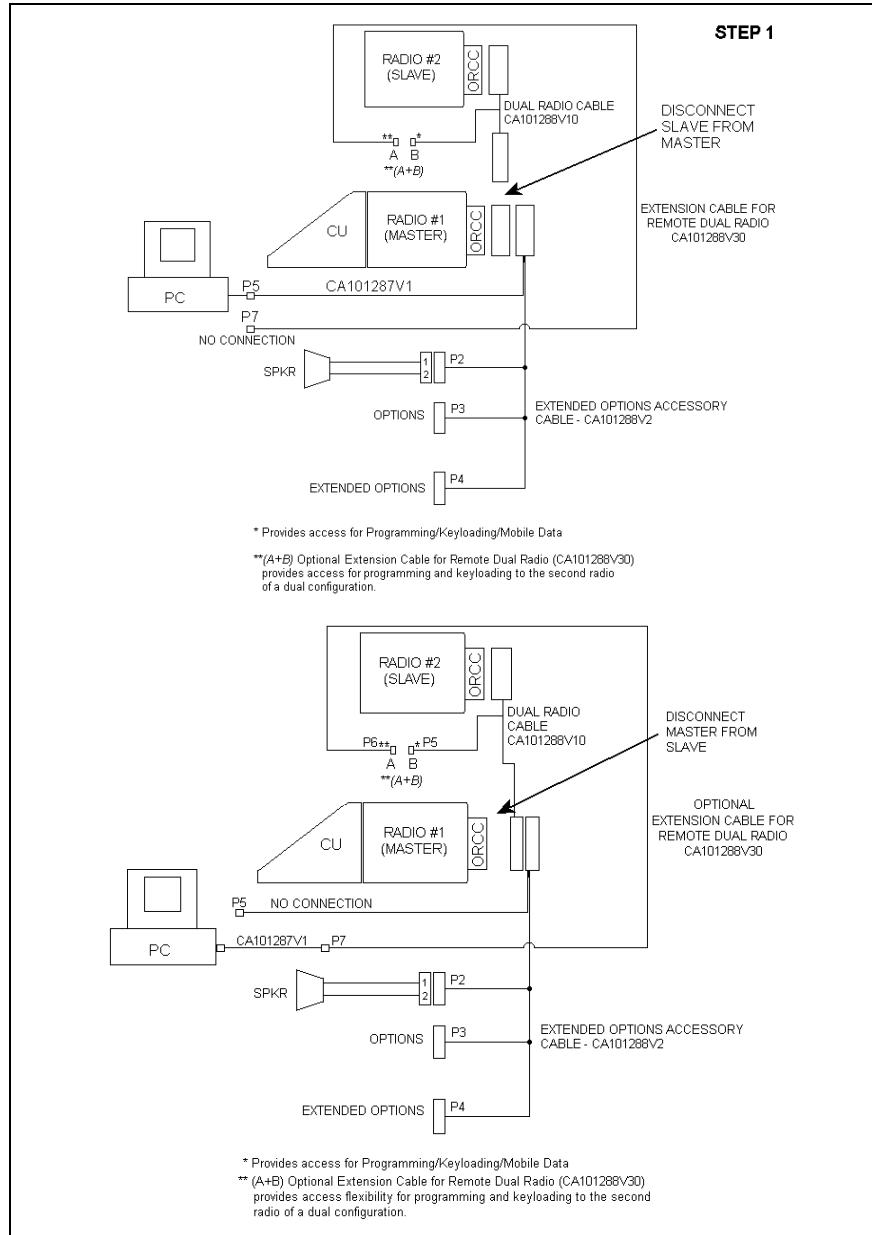

Figure 33 – Dual Radio Configuration – Front/Remote Mount – PC Programming Procedure
1. Configure the M7100^{IP} Master Radio per the ProGrammer setup shown in Figure 33, Step 1, with the Slave Radio disconnected. Program the Master Radio with the control configurations per the Pre-Installation Programming Procedure with ProGrammer – Dual Radio Units and adjust as necessary for the desired application.
2. Now configure the Slave Radio with ProGrammer as shown in Figure 33, Step 2. The Slave Radio should now be disconnected with the Slave Radio connected as shown. Program the Slave Radio with the configuration per the Pre-Installation Programming Procedure with ProGrammer – Dual Radio Units and adjust as needed for the desired application.